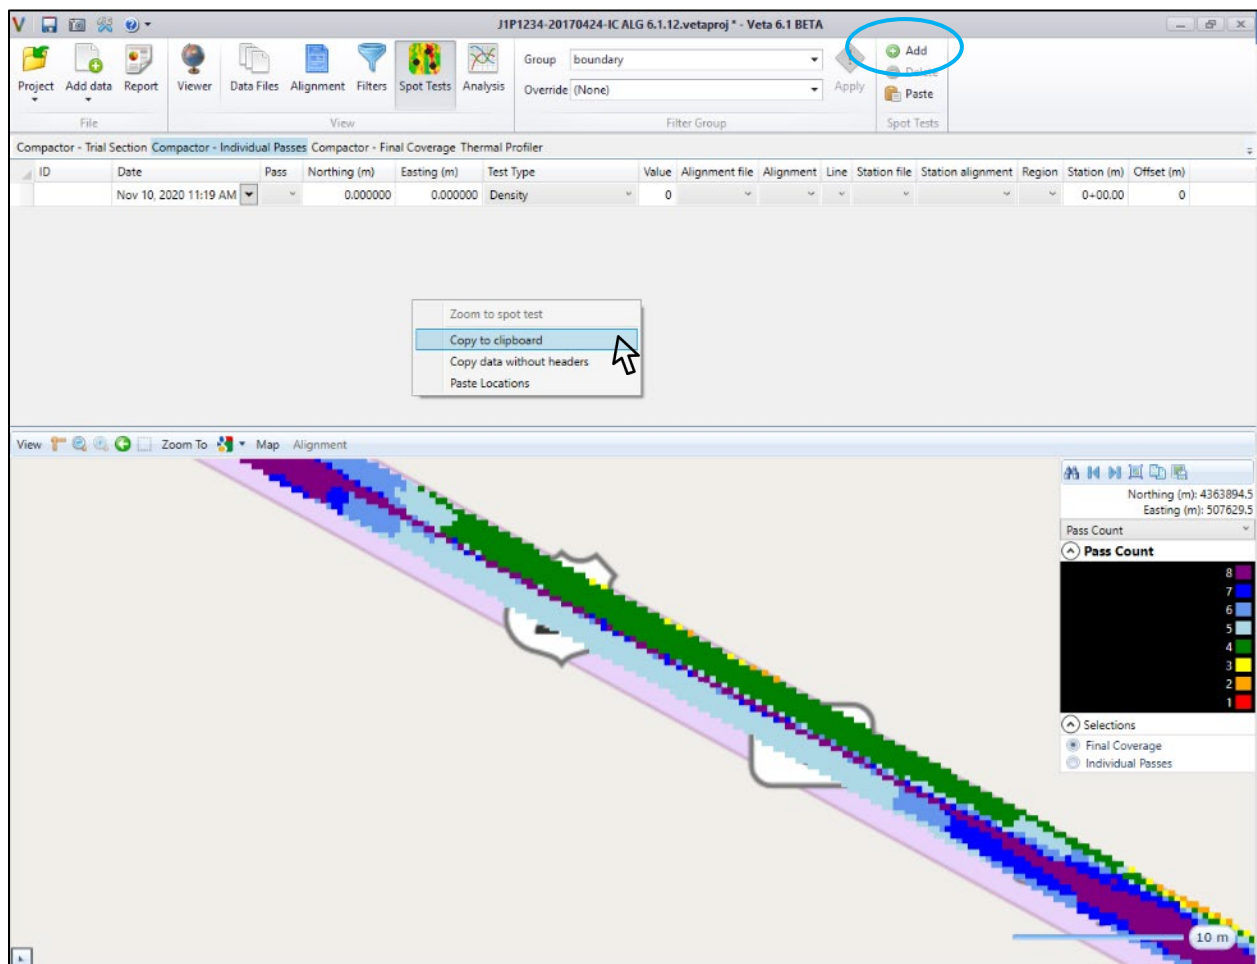

Figure 77. Adding a spot test manually using the add button and copying the data to the clipboard.
Step 1. Use the green button to add a spot test in Veta as shown in Figure 77. Note that the date is automatically populated.
Step 2. Copy the data to the clipboard by right-clicking inside the spot test box as illustrated in Figure 77.